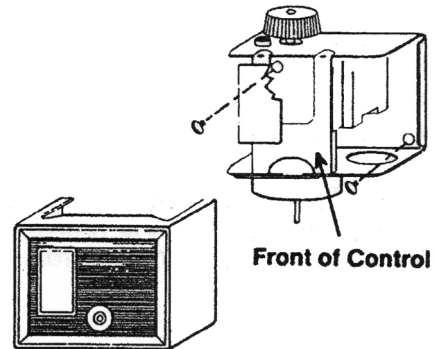

Figure 3 Flush Mounting
**NOTE:** The control can also be flush mounted without the bracket by using the .20 diameter holes in the back corners of the control frame. Access can be gained by removing the front cover and securing the control to the wall (see Figure 3 Flush Mounting).